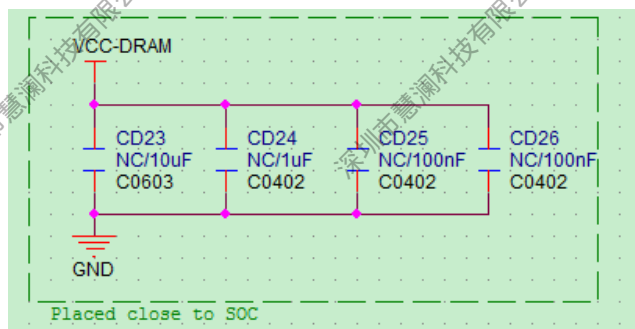

Figure 2-5 R818 DRAM Filter Capacitor
- All filter capacitors of DRAM cannot be deleted. Recommend to reserve the reserved filter capacitors for debugging during the development stage, but they do not need to be mounted. After the development testing is stable, these filter capacitors can be deleted according to the actual situation in mass production. As shown in Figure 2-5.